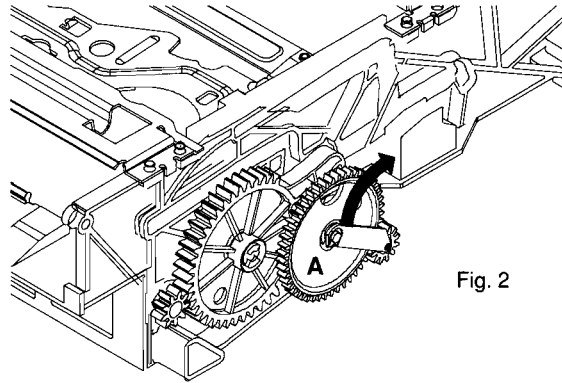

Fig. 2
- Free the holding bracket (Fig. 2) by rotating it up and back from the upper end.